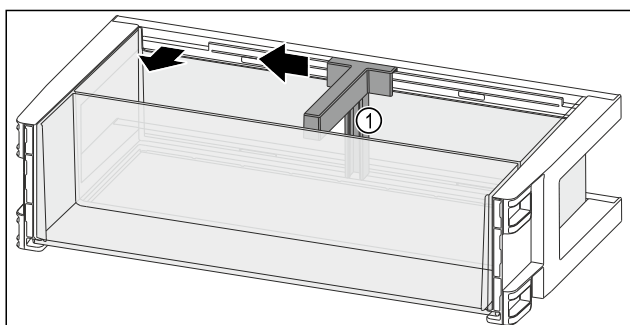

Fig. 93
- Slide the bottle holder Fig. 93 (1) to the side as far as the recess.
- Remove the bottle holder Fig. 93 (1).